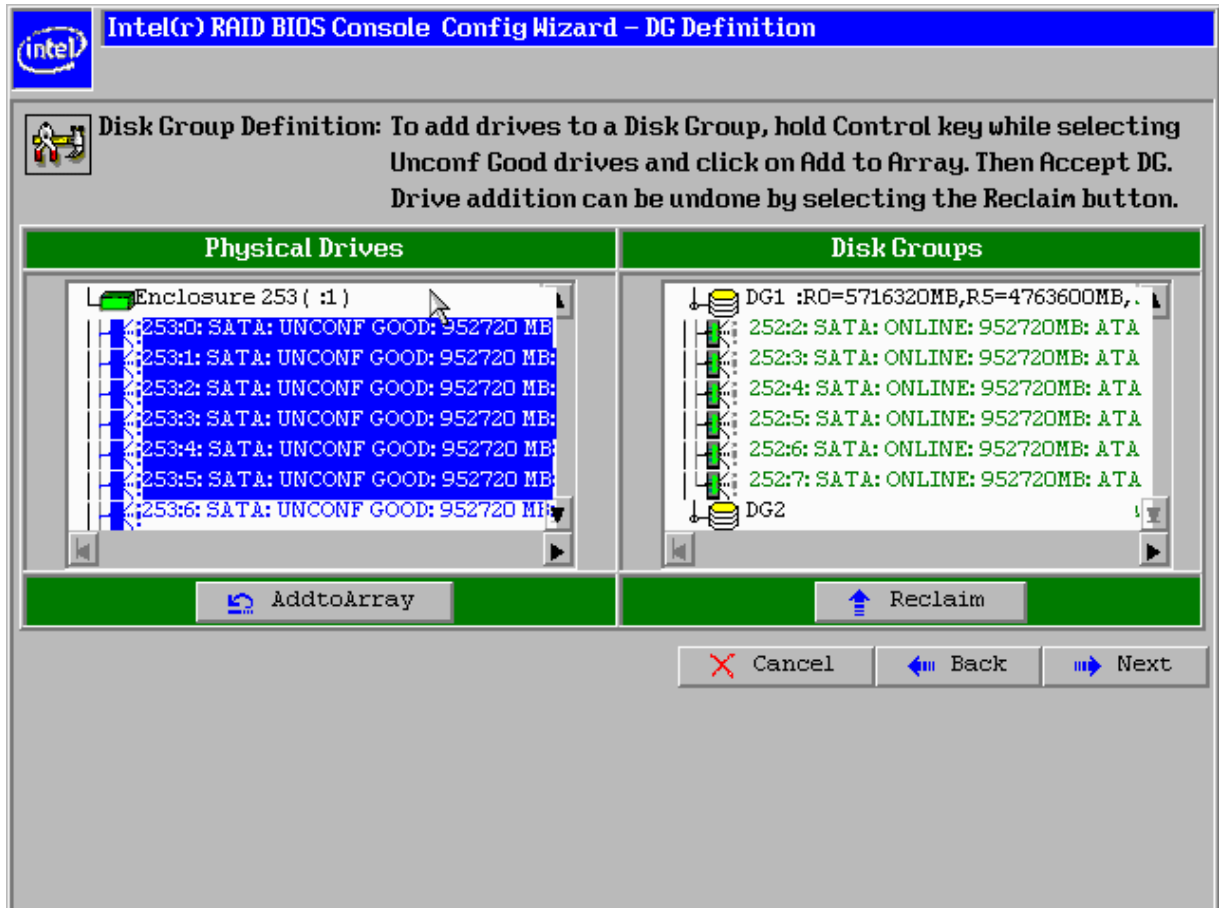

Figure 18. DG Definition Screen – Adding Devices to Disk Group 2
12. Hold down the <Ctrl> key while you select the next six unconfigured good hard drives in the Physical Drives panel on the left, and then click **AddtoArray** to move the drives to a proposed drive group configuration in the Disk Groups panel on the right (see Figure 18).